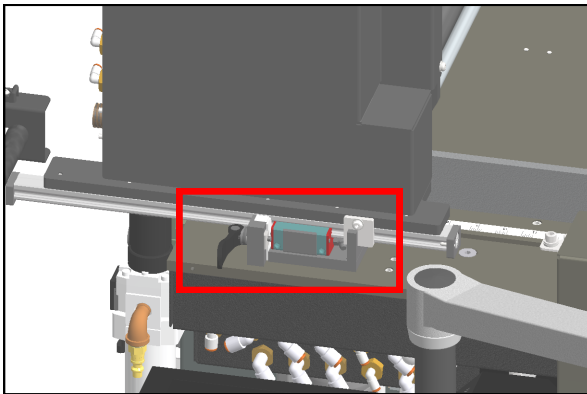

Figure 4-4A. Printer I-Frame Locking Clamp.
2. Verify the Printer I-Frame Locking Clamps are tight and the frame does not slide in or out. Figure 4-4A.